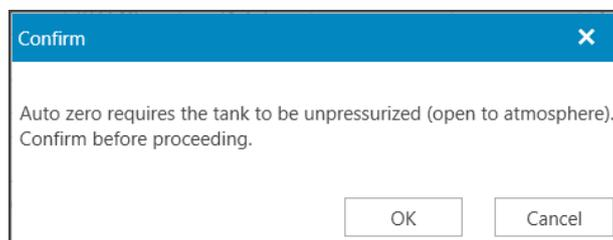

Figure 9-2: Auto Zero confirm
- Figure 9-2 shows, click **OK** to confirm and auto zero the sensor.
- Open the Line Faceplate and select the **Service->Sensors** tab (0)